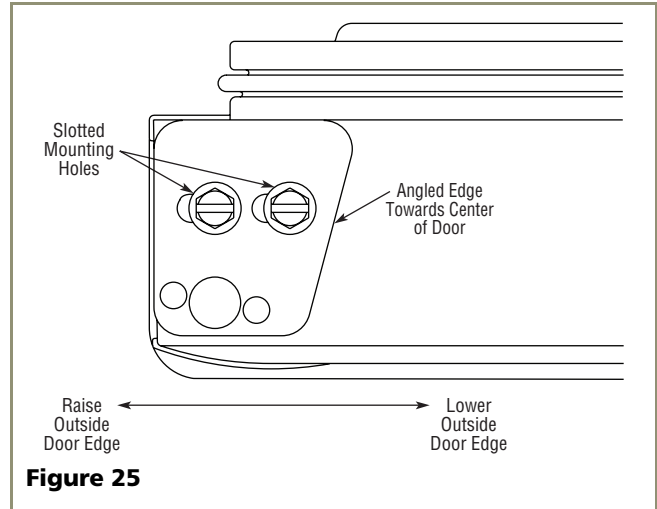

Figure 25
3. See **Figure 25**. If the top far edge of the door needs to move UP, move the hinge plate toward the outside of the door and retighten screws. If the top far edge of the door needs to move DOWN, move the hinge plate toward the inside of the door and retighten screws.